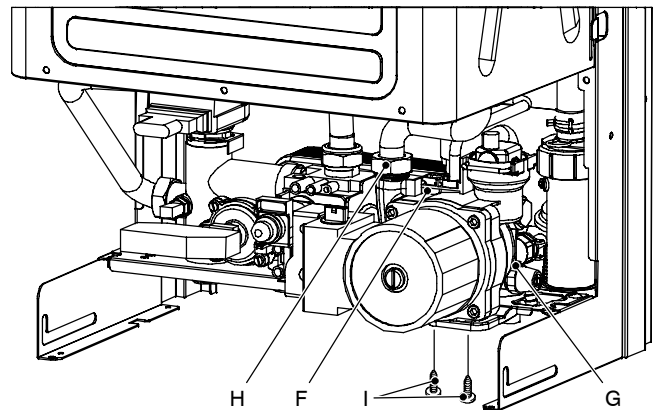

Fig. 20
With the boiler off, remove the front panel and disconnect the connector *B* (Fig. 20).
- 6 Remove the fork *F* (Fig. 20) and the connection of the capillary pipe of the pressure gauge.